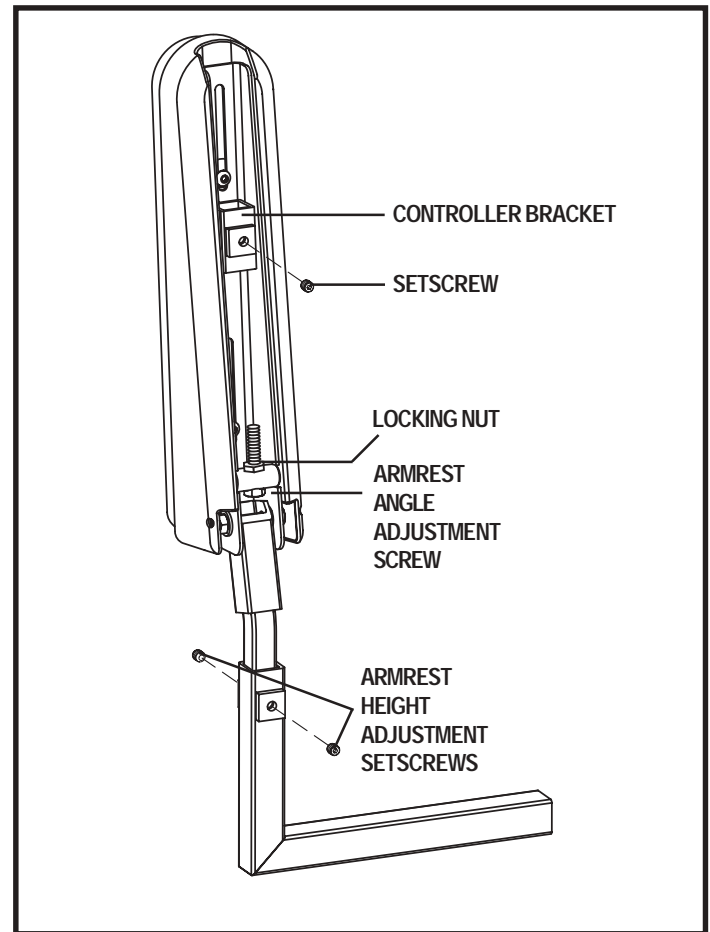

Figure 13. Armrest Angle and Height Adjustment
1. Lift the armrest straight up so that it is perpendicular to the floor. See figure 13.
1. Loosen the setscrews on the armrest. See figure 13.
2. Loosen the setscrew on the controller bracket. See figure 13.
3. Flip up the armrest and loosen the setscrew. See figure 13.